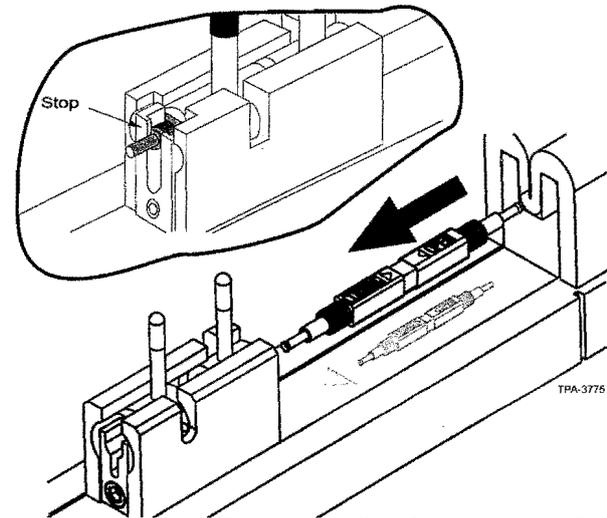

Figure 2 — Slide CamSplice into Tool
Step 2: Slide the CamSplice™ into the right end of the assembly tool (Figure 2) until it butts against the tool's left stop. Approximately 8 mm (1/3 inch) of the splice should protrude from the left end of the tool.
Step 1: Press down on the handle to open the cleaver's fiber clamp (Figure 2).